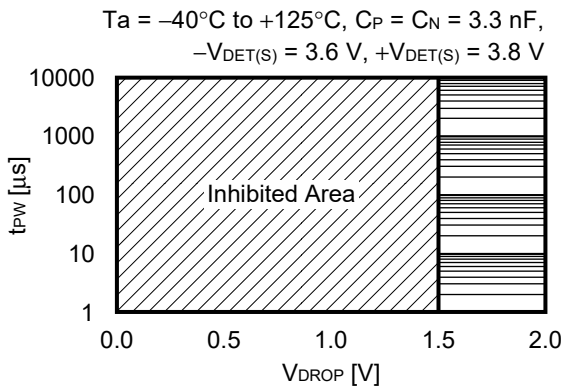
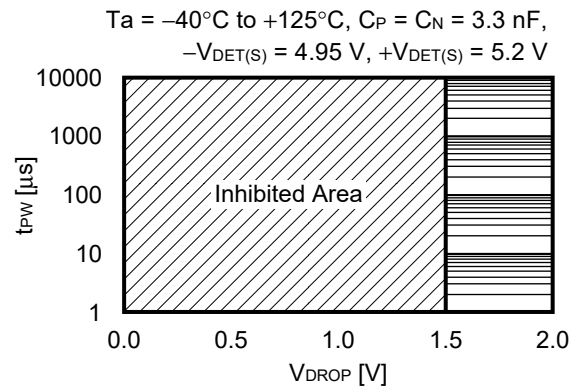

Figure 54
Figure 55
Figure 54 and **Figure 55** show the relation between pulse width (t_{PW}) and V_{DD} lower limit (V_{DROP}) where a release signal can be output after the normal release delay time has elapsed when the VDD pin (VDD detection product) instantaneously drops to the detection voltage (-V_{DET}) or lower and then increases to the release voltage (+V_{DET}) or higher during release delay time.
1. **Figure 54** and **Figure 55** show the input voltage conditions when a release signal is output after the normal release delay time has elapsed. When this is within the inhibited area, release may erroneously be executed before the delay time completes.
2. When the VDD pin voltage is within the inhibited areas shown in **Figure 54** and **Figure 55** during release delay time, input 0 V to the VDD pin then restart the S-19110 Series.